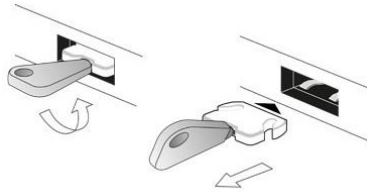

Figure 10:
3. Carefully turn the release key to the left (*Figure 10*).